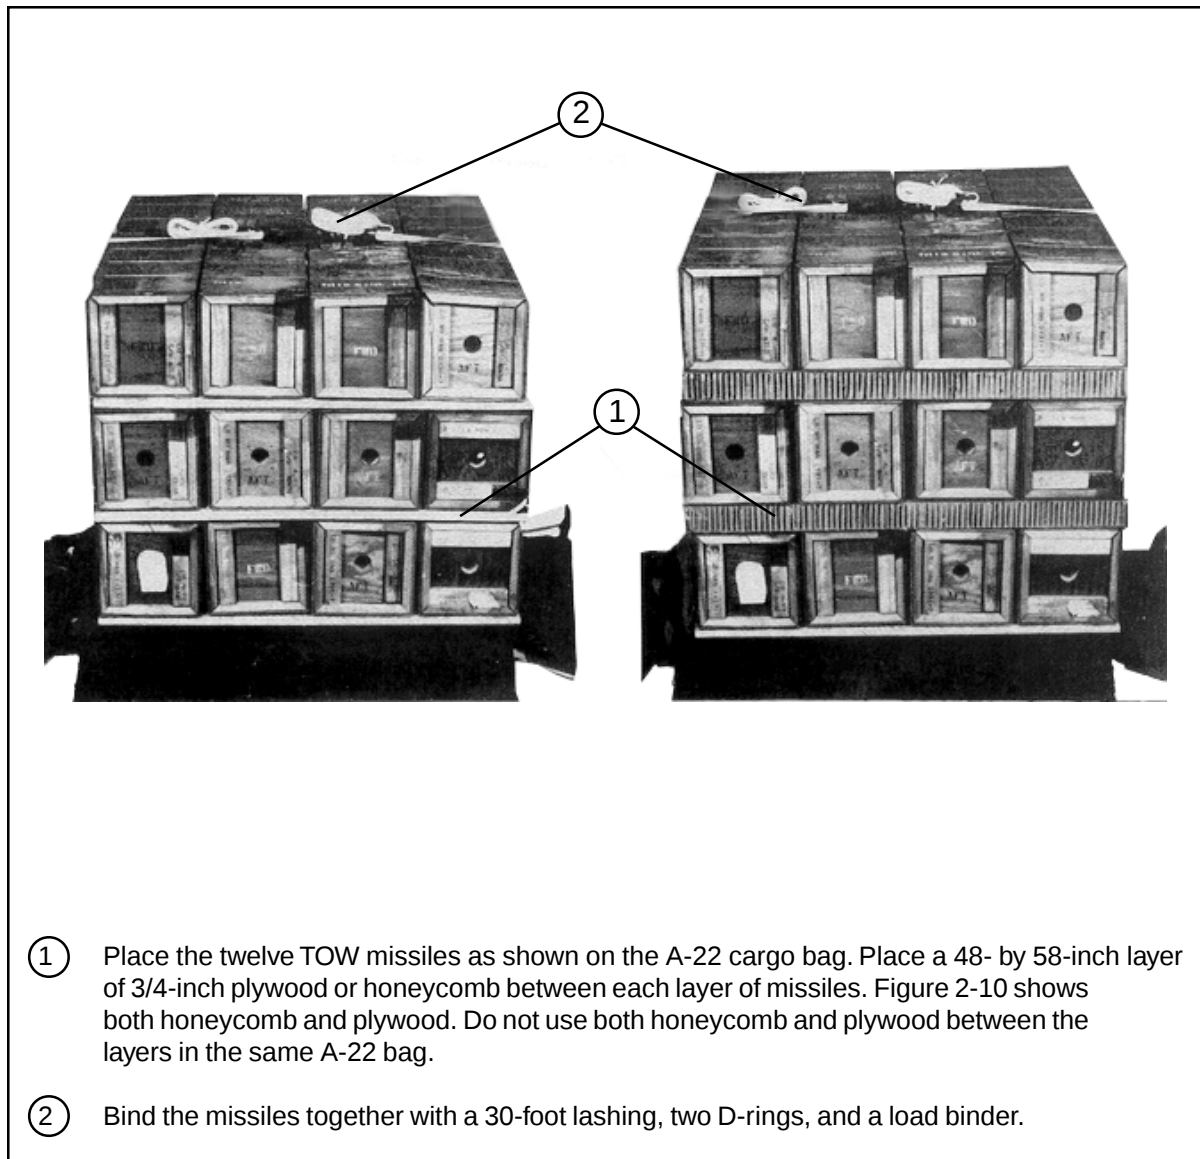

Figure 2-10. Twelve TOW Missiles Loaded on the A-22 Cargo Bag
- b. Pack the missiles as shown in Figure 2-10.